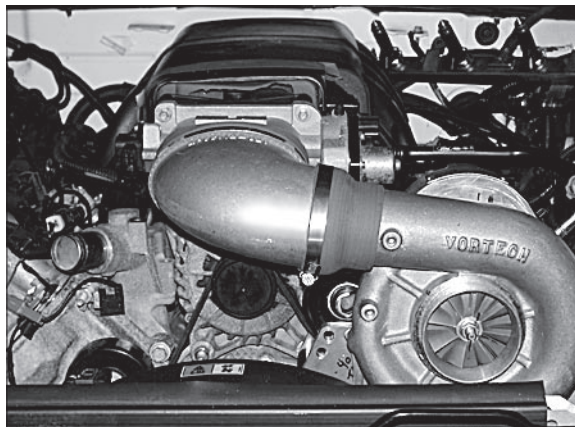

Fig. 9-a
- C. Install the duct to the inlet of the throttle body and the outlet of the supercharger. Secure the remaining #72, and #44 hose clamps provided. (See Fig. 9-a.)